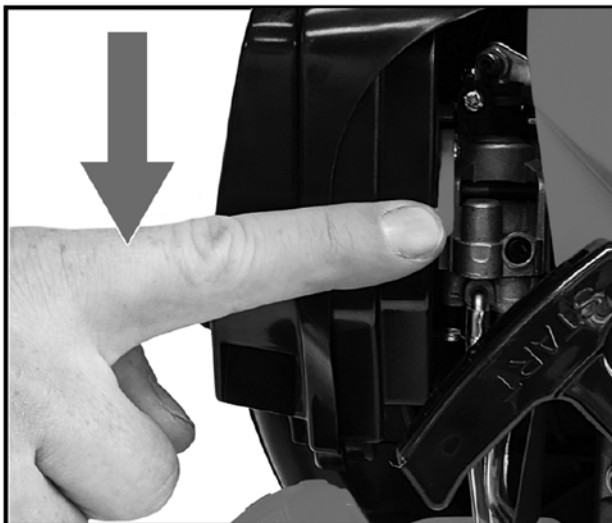

FIGURE 3
3. Move the choke to the closed position. Figure 3.